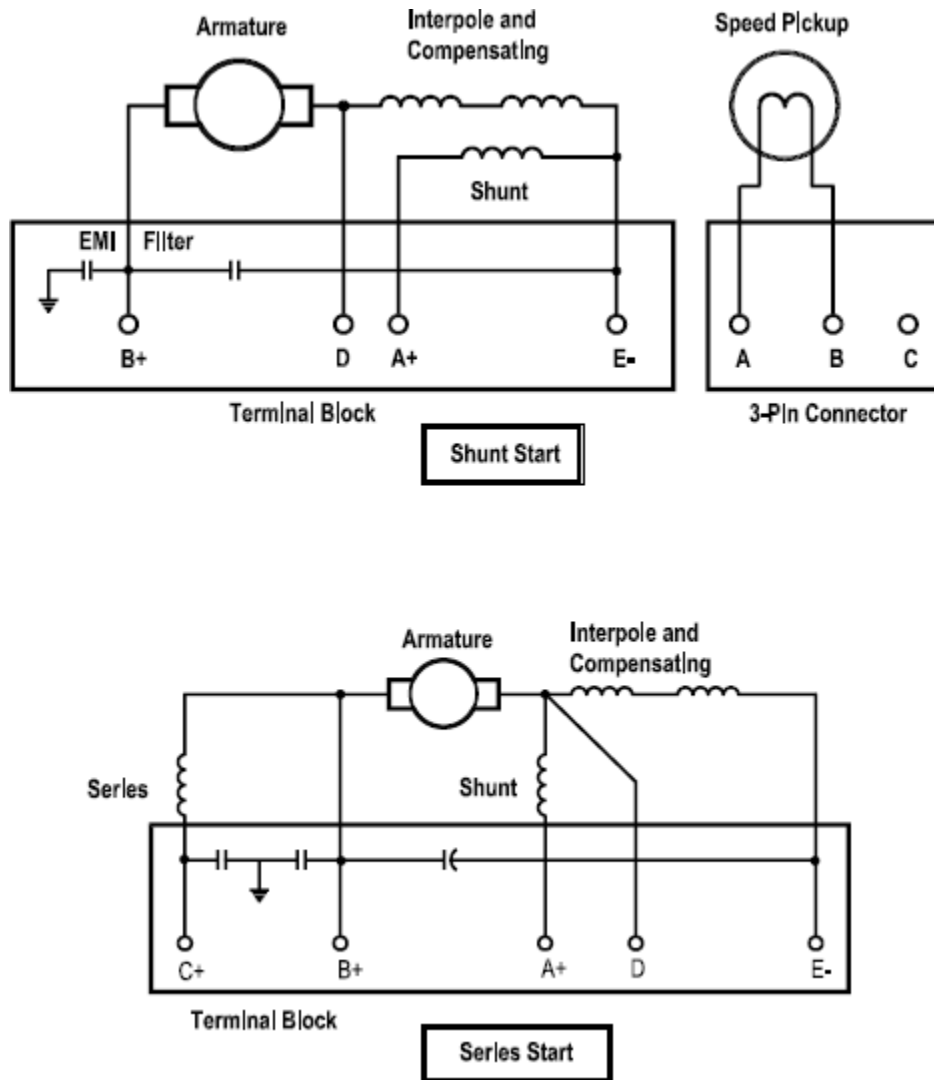

Figure 2 - DC Starter-Generator Schematic
**Shunt Start** – During engine start cycle, the aircraft power bus applies DC voltage across terminals B+ and E– supplying current to armature and stator windings. At the same time, voltage is applied to shunt field terminals A and E from GCU (Generator Control Unit). Starter power can be supplied by aircraft batteries or a ground power source. See Figure 2.
**Series Start** – During engine start cycle, the aircraft power bus applies DC voltage across terminals C+ and E– supplying current to armature and stator windings. Starting power can be supplied by aircraft batteries or a ground power source. See Figure 2.